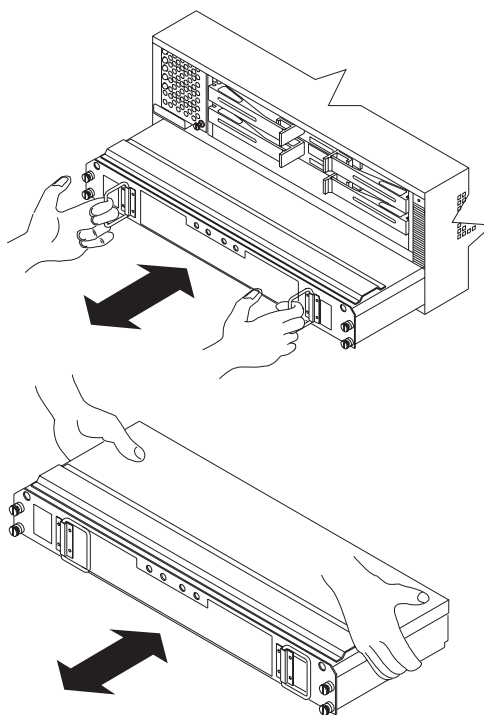

Figure 24. Removing and Installing the Battery CRU
3. Remove the battery CRU (Figure 24 on page 44).
4. Install the new battery (Figure 24 on page 44).